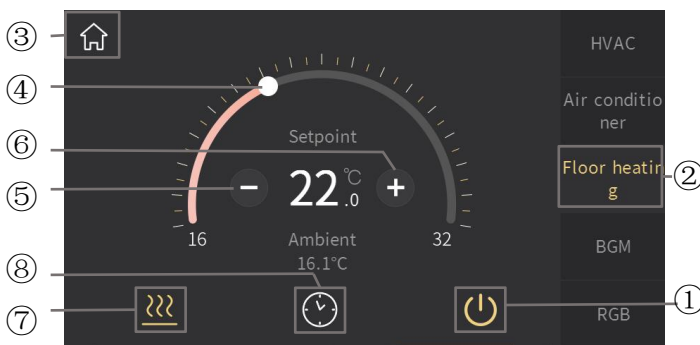
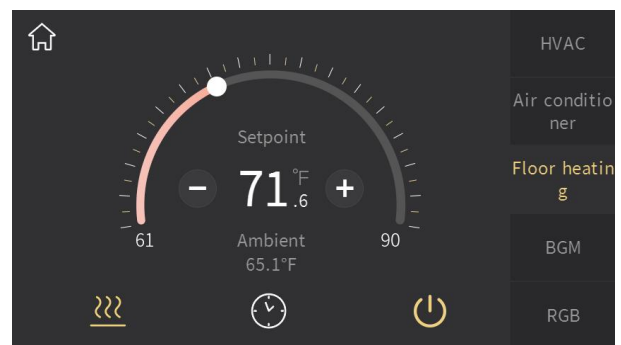

Fig.2.5.1
Fig.2.5.2
- ② This area displays the page description identification of Floor heating, user can define the description through ETS;
- ③ Return to the home page by touching this icon;
- ④ Adjust the setting temperature by sliding this ring sliver;
- ⑤ The function of this icon is to decrease the temperature;
- ⑥ The function of this icon is to increase the temperature;
Adjusting the temperature by sliding the ring slider④ or touching the icon⑤ and icon⑥. For each touching of icon⑤ and icon⑥, the adjustment range is 0.5 degrees. When the setting temperature unit is set to degrees Celsius(°C), as shown in Fig.2.5.1, adjustment range of the setting temperature is 16~32°C by default; when the setting temperature unit is set to Fahrenheit(°F), the current temperature value will automatically convert to Fahrenheit value, as shown in Fig.2.5.2, adjustment range of the setting temperature is 61~90°F by default. The temperature adjustment range can be modified through parameter setting.